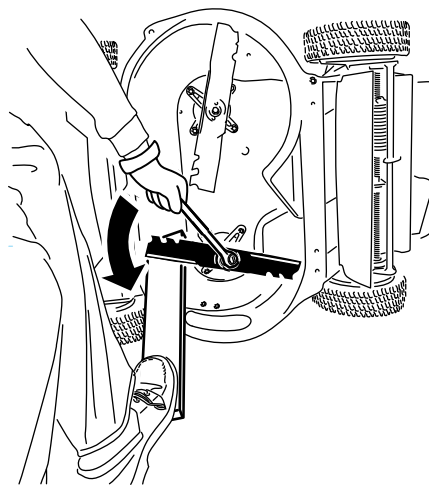

Figure 32
1. Use a block of wood to hold each blade steady and turn the blade bolt counterclockwise as shown in Figure 32.